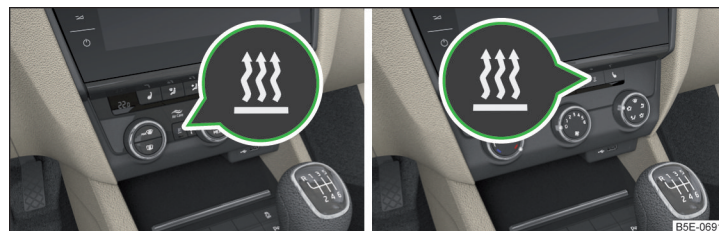

Fig. 157 Button for switching on / off (Climatronic / manual air conditioning)
- ▶ Using the button on the operating part of the air conditioning» Fig. 157.
When automatic switching on is activated, the warning light in the  symbol button lights up for about 10 seconds after the ignition is turned off » Fig. 157.